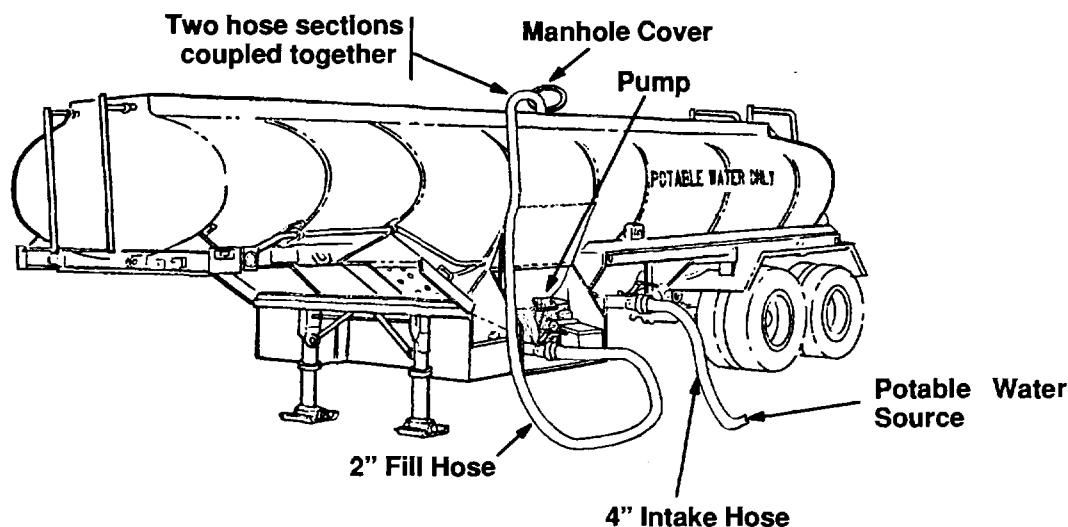

Figure 2-16. Self-filling From Source Not Under Pressure
1. Check level of water in tank. It must at least fill the pipes and emergency valve. If not, the pump must be primed, by opening emergency valve and filling through top opening with buckets, Fig. 2-16.